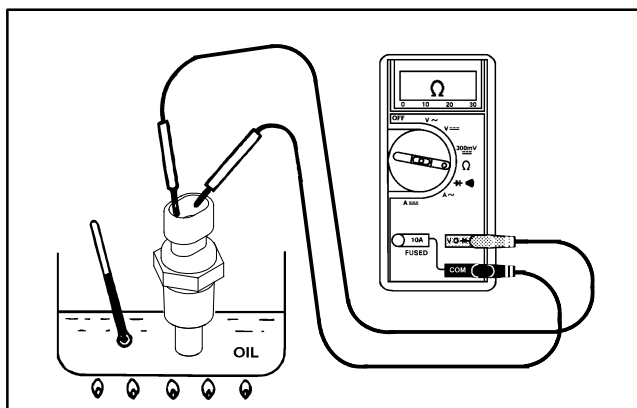

Figure 76
4. Put sender in a container of oil with a thermometer and slowly heat the oil (Fig. 76).